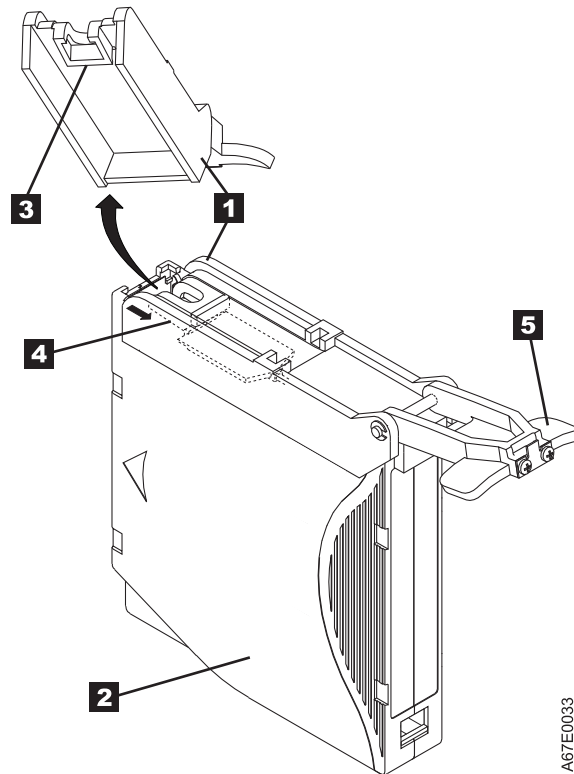

Figure 4-12. Attaching the leader pin attach tool to the cartridge. To hold the cartridge door open, hook the tool into the door and pull the tool back.
1. Attach the leader pin attach tool (1 in Figure 4-12 on page 4-15) to the cartridge 2 so that the tool's hook 3 latches into the cartridge's door 4 . Pull the tool back to hold the door open, then slide the tool onto the cartridge. Open the tool's pivot arm 5 .